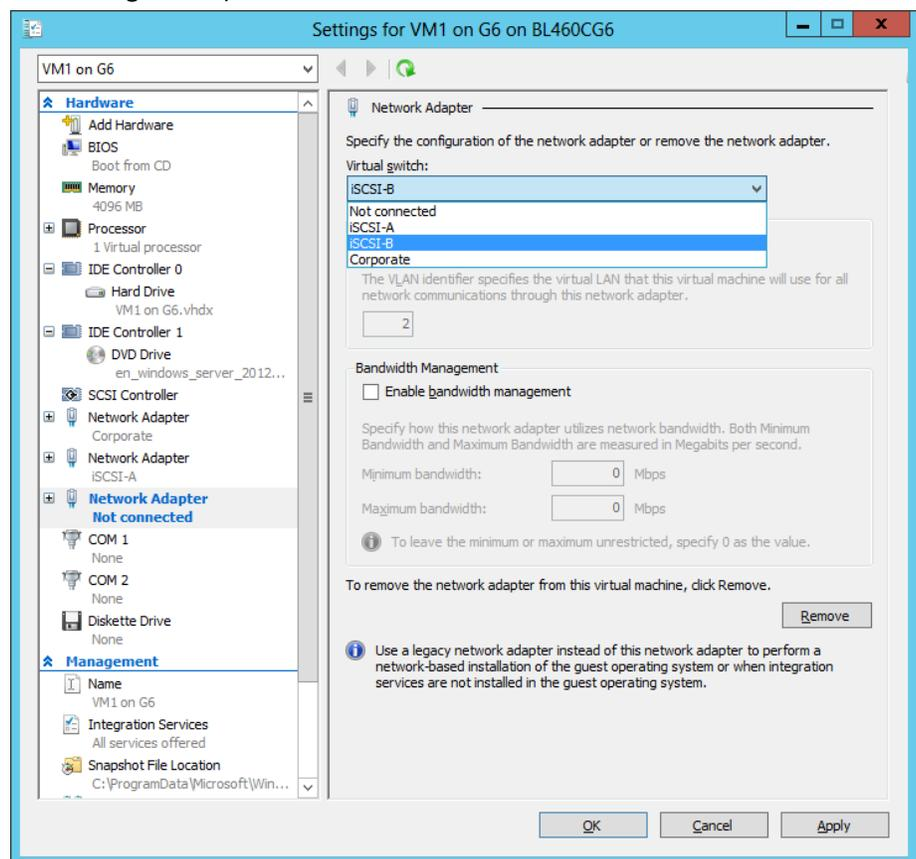

Figure 31: Attaching the virtual switch.
6. From the drop-down menu, choose an iSCSI virtual switch. (See Figure 31.)